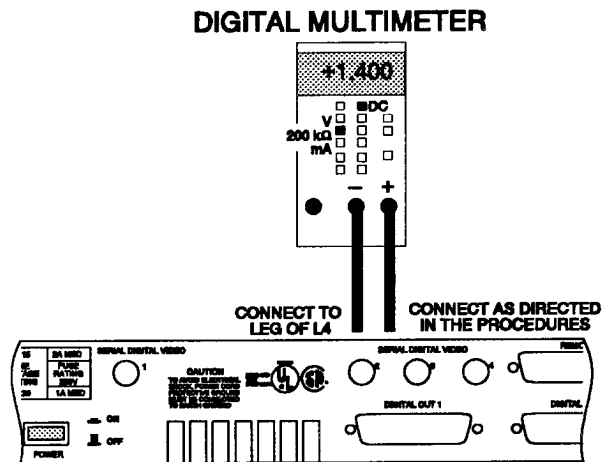

Fig. A-11. Setup to adjust the Serial Digital Video Output Amplitude.
- Connect the “—” probe from the digital multimeter to L4 (-12VA as shown in Fig. A-4) and the + probe to TP8 as shown in Fig. A-11.
- Connect the “—” probe from the digital multimeter to L4 (-12VA as shown in Fig. A-4) and the + probe to TP108 as shown in Fig. A-11.